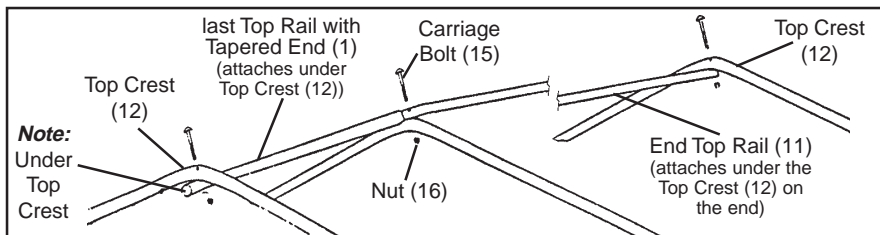

Figure 6
3. The Top Crests (12) are at the top of the assembled Bows. To anchor that portion of the roof to the Bows, attach (11) underneath the (12) on the End Bow using Carriage Bolt (15) and Nut (16). Fit (1) into (11) and connect to the top of the Middle Bow with (15) and (16). Continue connecting to the top until the last Middle Bow. At the end, connect (1) underneath the last (12). **See Figure 6.**